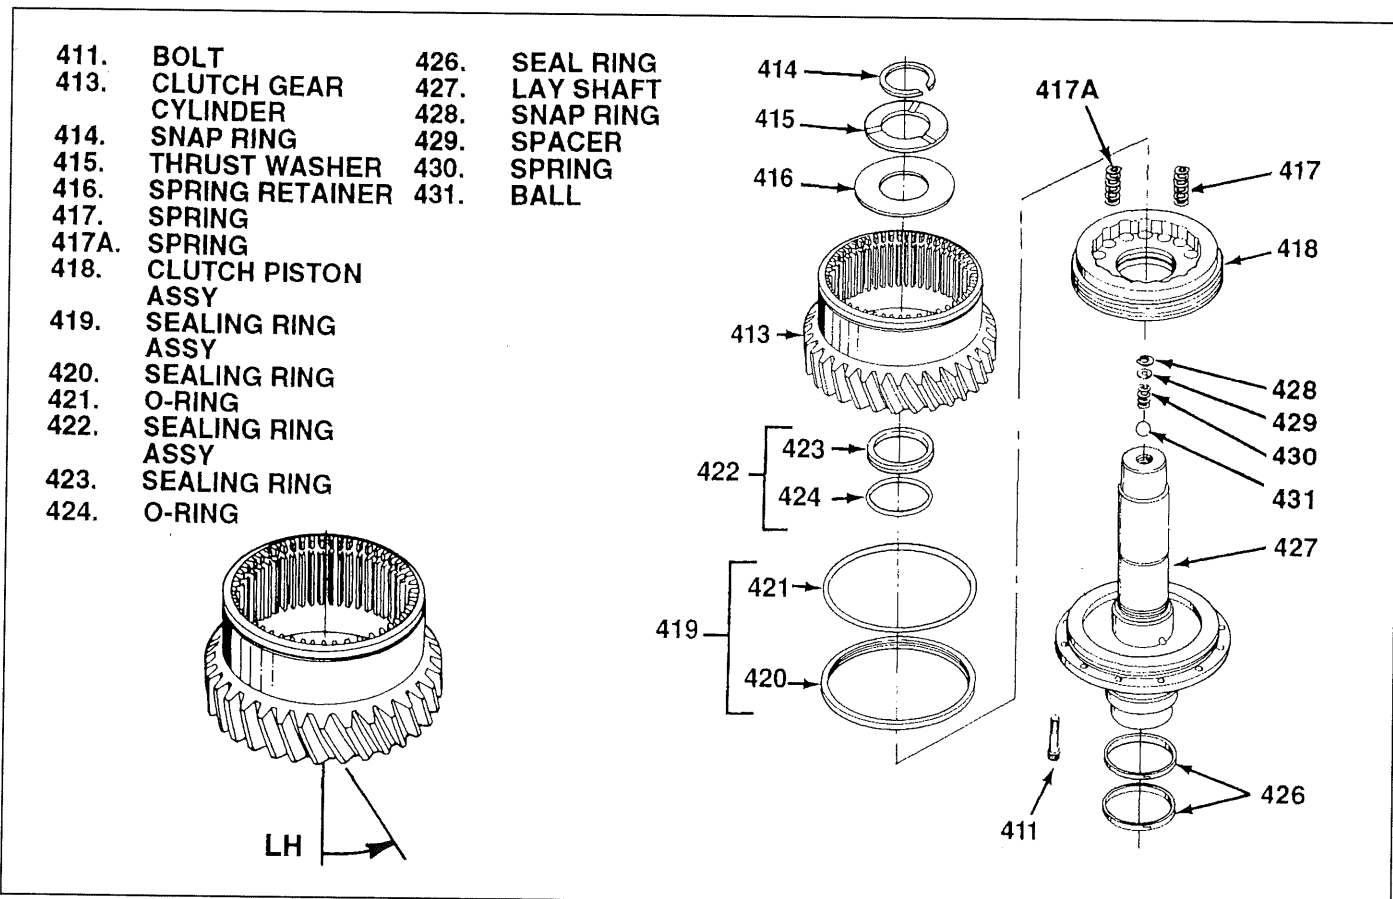

Figure 5-1: Lay Clutch Cylinder and Piston
5-5 ASSEMBLY OF CLUTCH PISTON AND CYLINDER Assemble lay clutch piston and cylinder as follows (see figure 5-1):
9. The helical on the lay clutch gear must be left handed. That means the teeth must be inclined to the left when viewed from the face of the gear (see figure 5-1). If the incorrect helical (input clutch) gear is installed there may be resulting damage to the lay shaft pump side bearing.